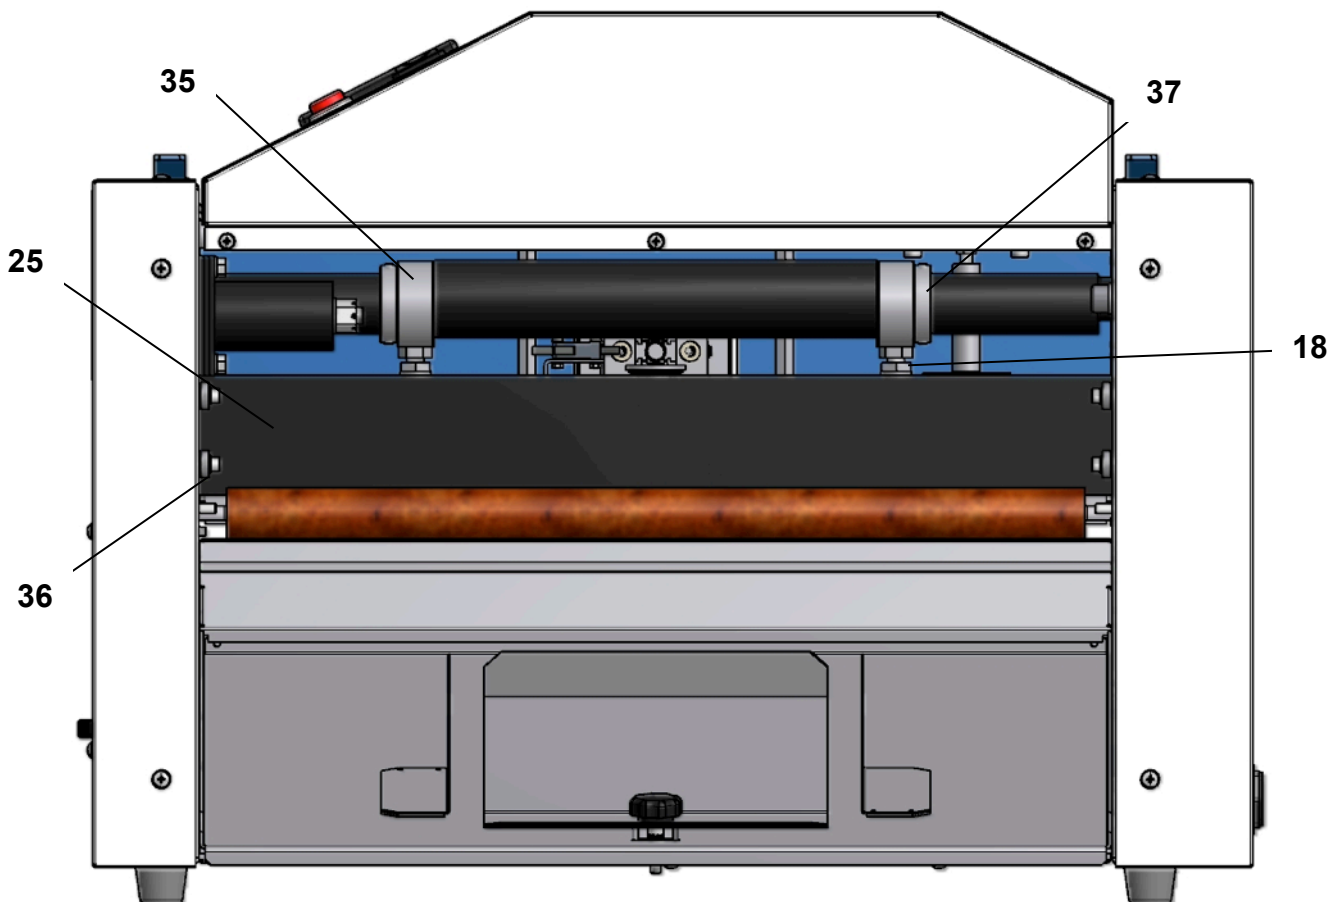

Fig. 1: Dismounted back cover
- 25 – Top bar (fig. 1)
- 35 – Needle bearings of eccentric axis (fig. 1)
- 36 – Top bar bearings (fig. 1)
- 37 – Safety ring (fig. 1)